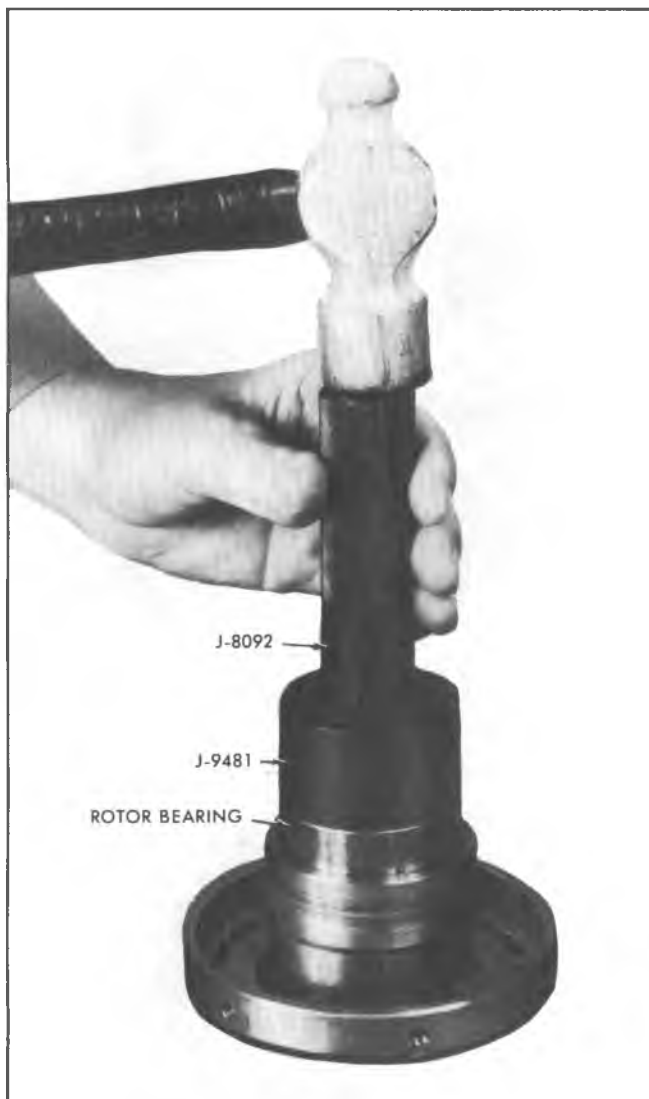

Fig. 83—Installing Clutch Rotor Bearing
1. Place rotor and hub assembly face down on a clean, flat and firm surface (Fig. 83).